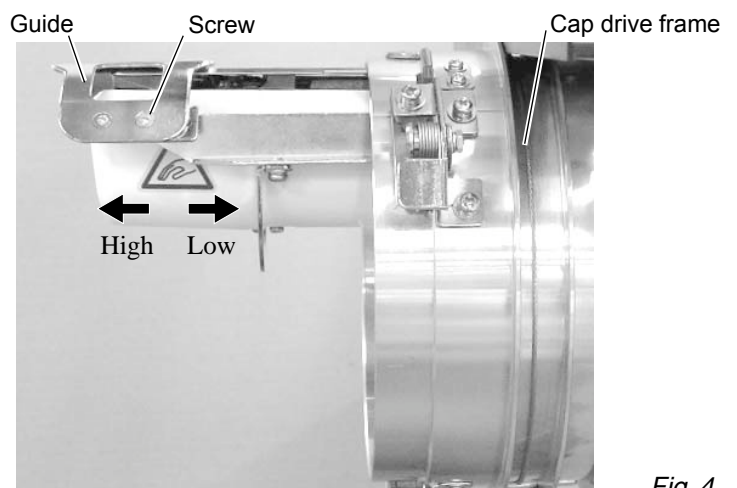

Fig. 4
2. Adjust the guide position to suit the height of the cap. Remove screws at left and right to adjust. (Fig. 4)